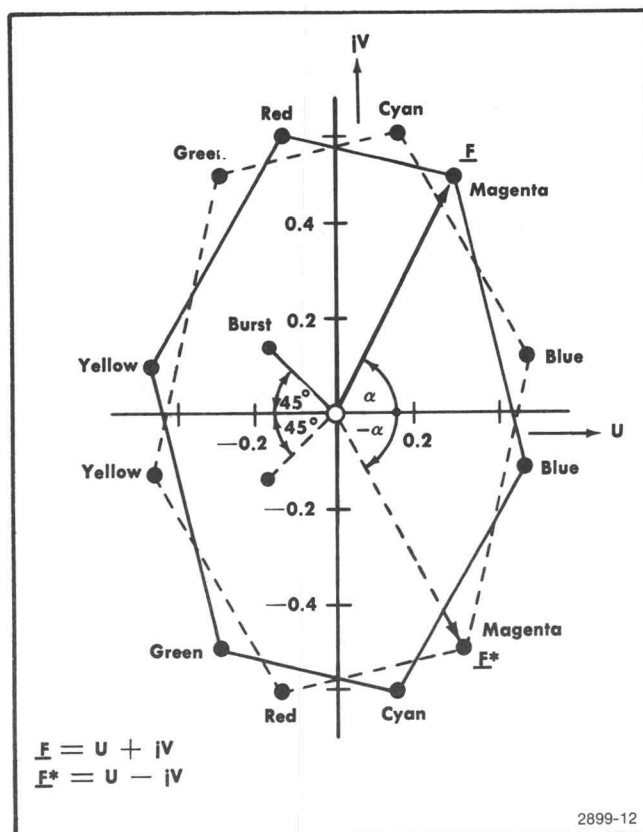
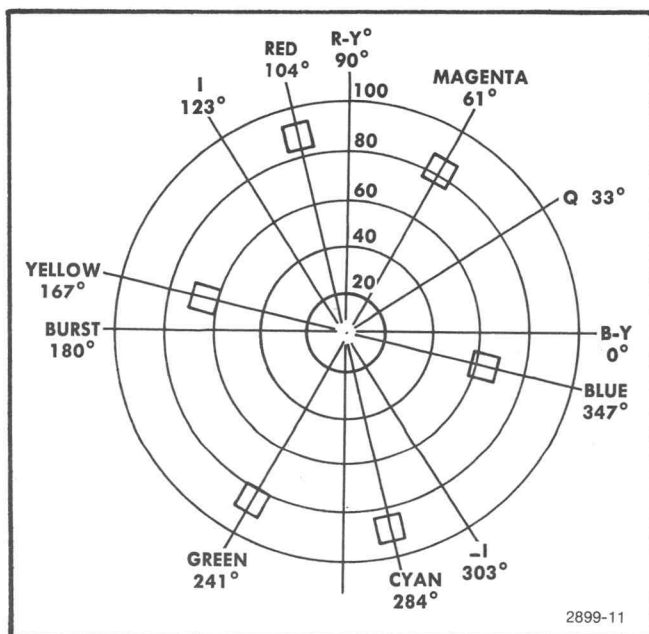

Fig. 2-12. PAL, PAL-M standard color-phase vector diagram.
Fig. 2-11. NTSC standard color-phase vector diagram.
**Chrominance.** Chrominance consists of two additional quantities: hue and saturation. Hue is the attribute of color perception that determines whether the color is red, blue, green, or the like. White, black, and gray are not considered hues. Hue is presented on the Vectorscope CRT as a phase angle and not in terms of wavelength. For example, red, having a wavelength of 610 millimicrons, is indicated as  $104^\circ$  on the standard color phase vector diagram when the burst is at  $180^\circ$  for NTSC and  $135^\circ$  for PAL and PAL-M. The standard color-phase vector diagram is shown in Fig. 2-11 for NTSC, and Fig. 2-12 for PAL and PAL-M.